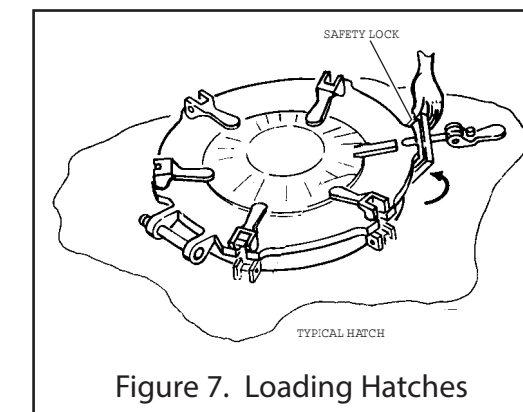

Figure 7. Loading Hatches
1. All hatches are secure (See Figure 7).